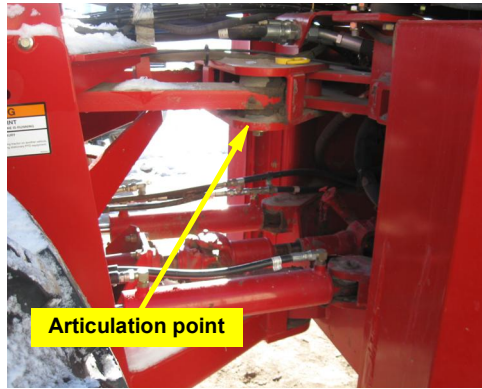

Figure 2a: Tractor articulation point
- a. Locate the articulation point near the center of the tractor (Figure 2a).